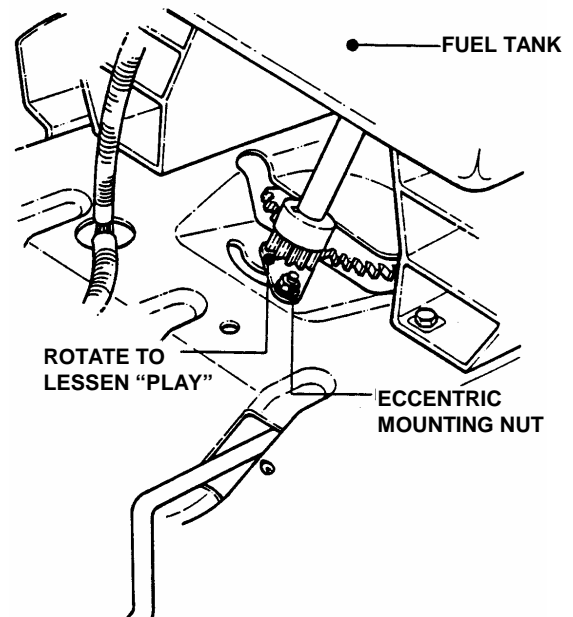

FIGURE 4.14
3. Loosen the eccentric mounting nut and rotate the eccentric clockwise until steering "Play" is reduced. Refer back to Figure 4.14.
2. From left side of tractor, locate the steering sector below fuel tank. See Figure 4.14.